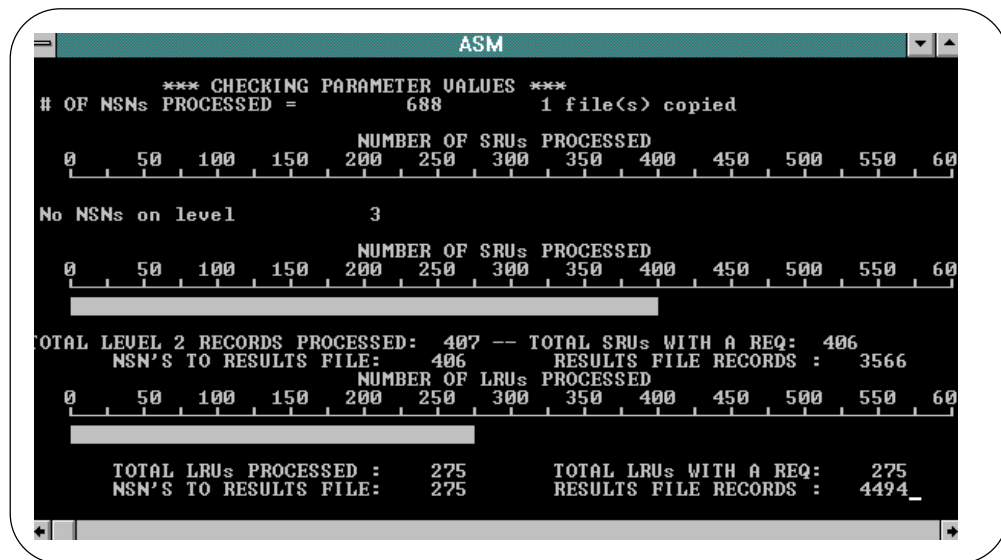

Figure 1-8
- Now click on the **Run Requirements** (see Figure 1-2) button to run the model. A window (Figure 1-8) will open, displaying the number of LRUs and SRUs being processed.